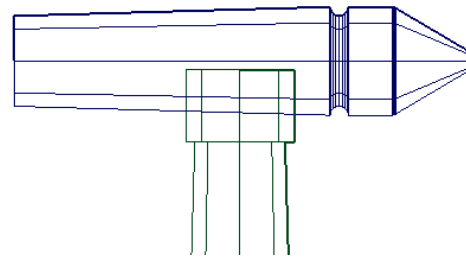

Figure 3-92 Central part
9. Select the **X** and **Local** radio buttons from the **Axis Options** area and then select the joined curves; the central part of the model is created, as shown in Figure 3-92.